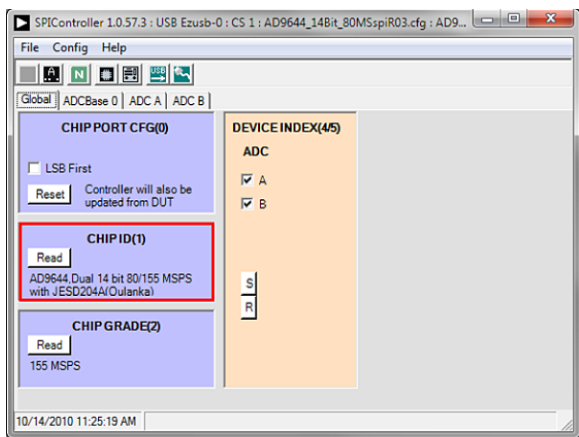

Figure 9. SPI Controller, CHIP ID(1) Box
1. Start the SPI Controller software by selecting the SPI controller software from the **Start** menu or by double-clicking the **SPIController** software desktop icon. If prompted for a configuration file, select the appropriate one. If not, check the title bar of the window to determine which configuration is loaded. If necessary, select **Cfg Open** from the **File** menu and select the appropriate file based on your part type. Note that the **CHIP ID(1)** field should be filled to indicate whether the correct SPI controller configuration file is loaded (see Figure 9).